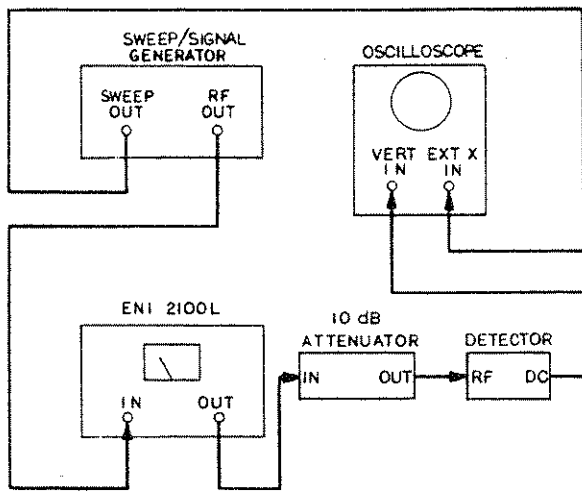

Figure 4-1. Gain Measurement
- 1) Connect the equipment as shown in Figure 4-1, then proceed as follows:
Reconnect the 2100L into the test set-up of Figure 4-1.